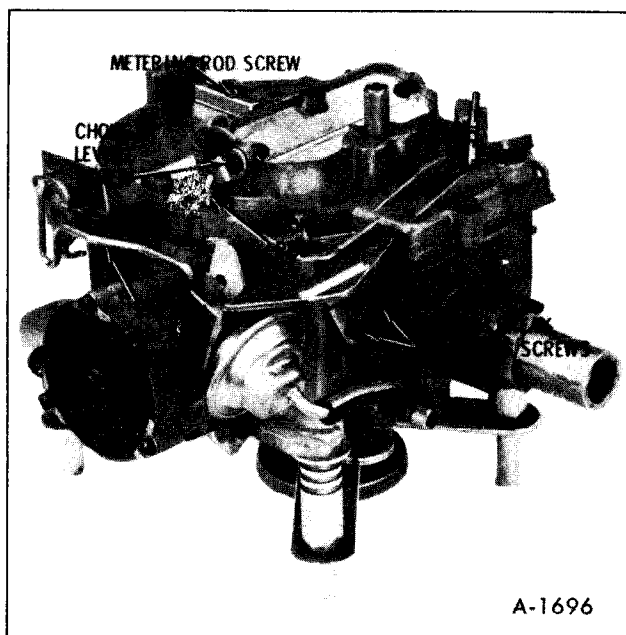

Figure 11—Carburetor Assembly
2. Remove upper choke lever from the end of choke shaft by removing retaining screw (figure 11). Then remove the upper choke lever from the end of choke rod and choke rod from lower lever inside the float bowl casting.